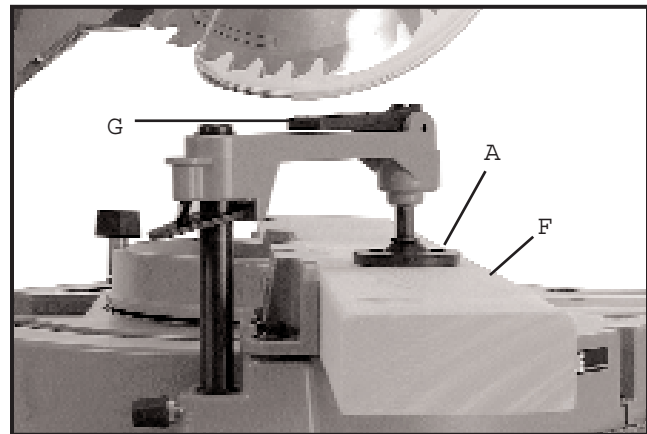

Fig. 24
3. For final clamping of the workpiece (F) Fig. 24, against the table, lower cam lever (G) as shown. After cut is completed, lift lever (G). This will raise clamp (A) slightly, allowing you to slide or remove workpiece (F).